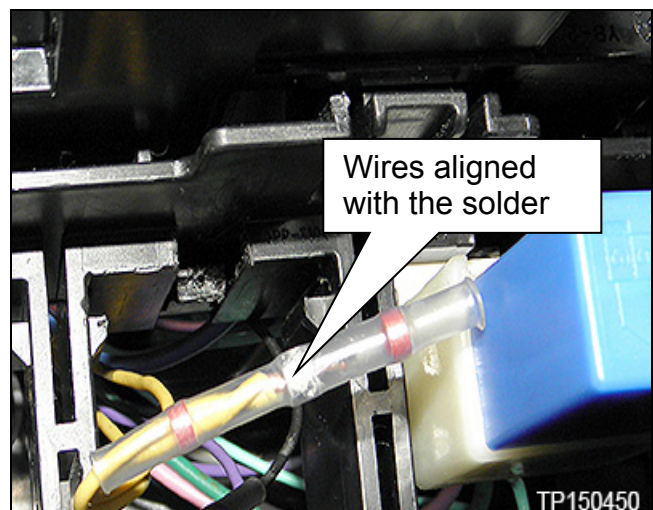

Figure 9
10. Slide a solder sleeve connector (#J-47003-2) over the twisted pair (Figure 9).